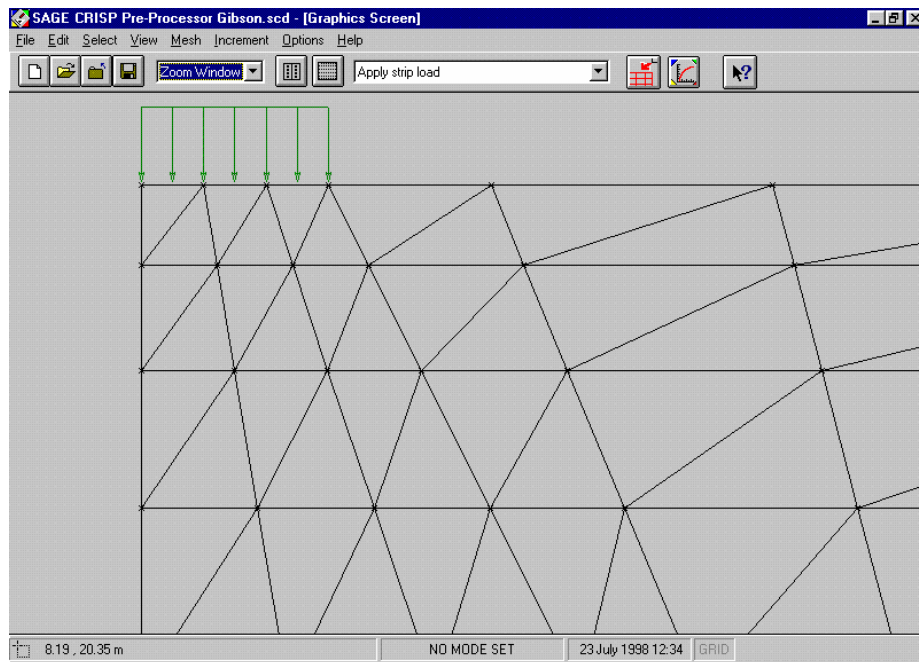

Figure 4-24: Strip Load Applied at the Top of the Mesh
- Step 7** Once you have finished, the Graphics Window should look something like Figure 4-24. Here, the loaded region has been magnified using the **Zoom Window** feature. The appearance of the load arrows can be modified by changing the default scale settings (see section 4.3.7).